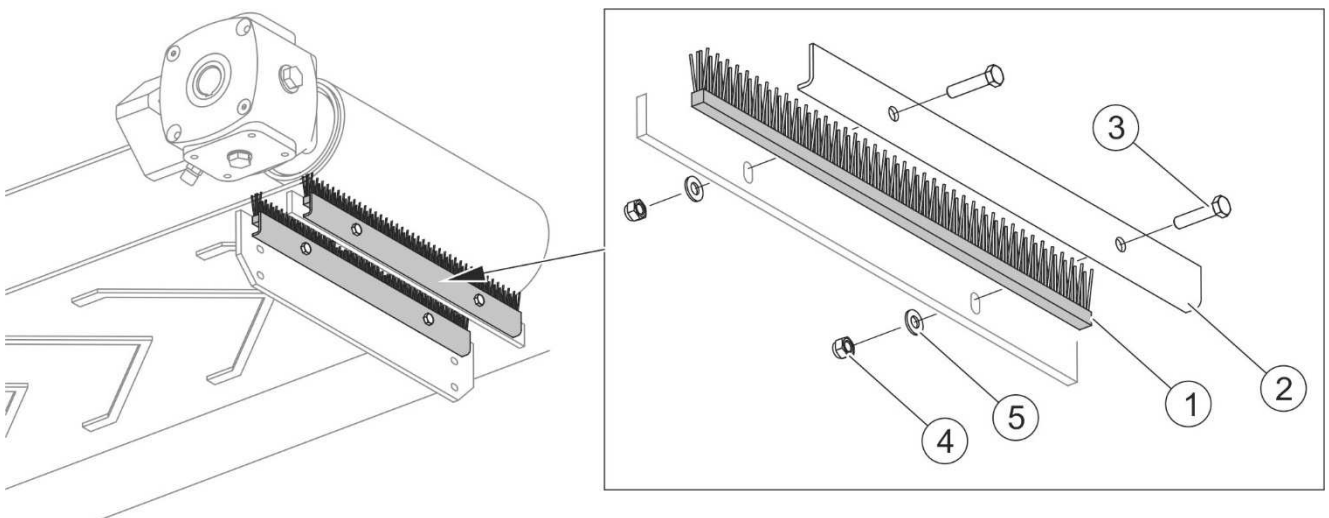

FIGURE 5.9 Replacement of conveyor belt brushes
- Unscrew bolts (3) and remove clamping strip (2) (FIGURE 5.9).
- Remove worn or damaged brush (1) and replace it with a new one.